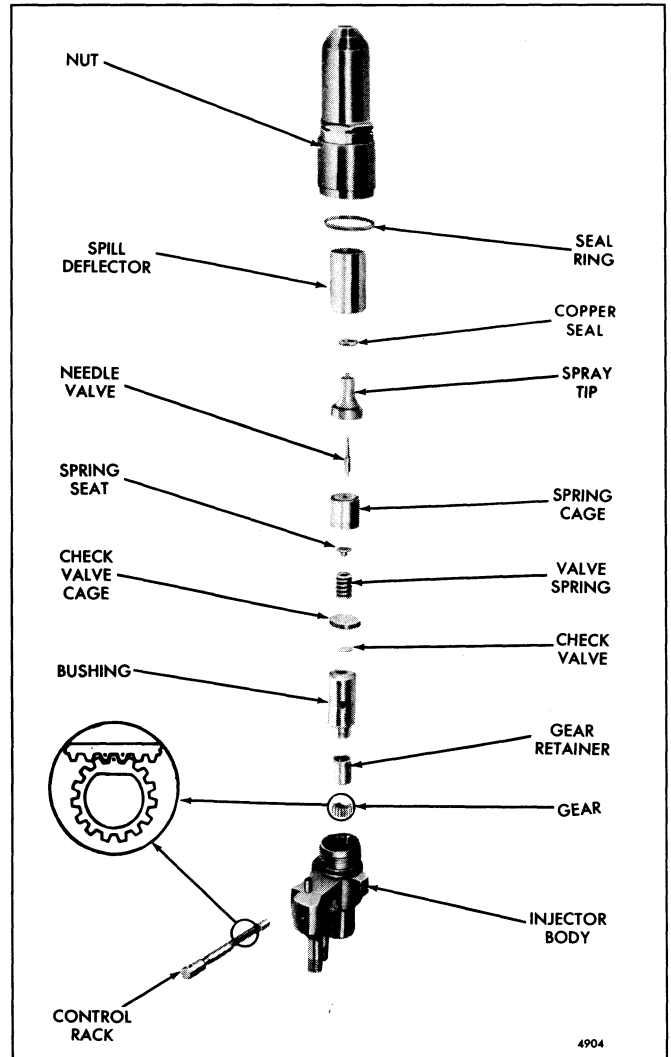

Fig. 13 - Injector Rack, Gear, Spray Tip and Valve Assembly Details and Relative Location of Parts
6. Refer to Fig. 13 and remove the spill deflector. Then, lift the bushing straight out of the injector body.